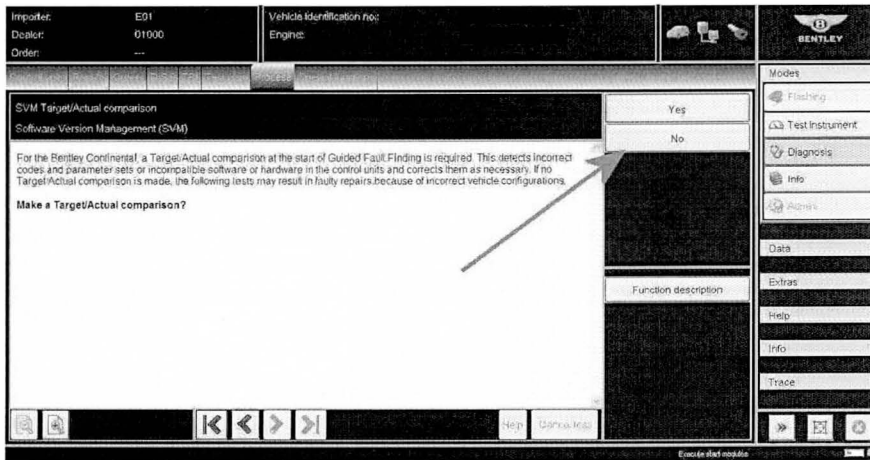

Figure 5
3. When requested to **Make a SVM Target/ Actual comparison?** Please select **No** (Figure 5)